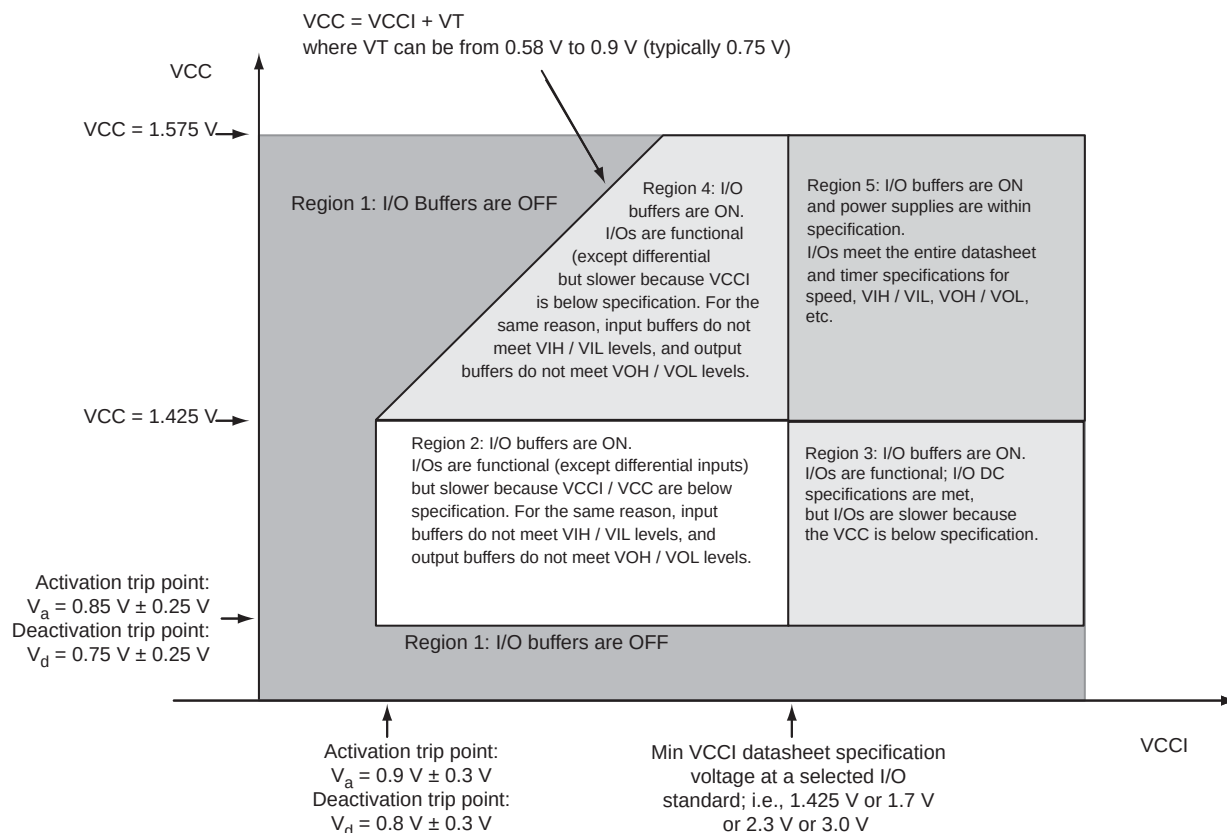

**Figure 2-1 • I/O State as a Function of VCCI and VCC Voltage Levels**
Sophisticated power-up management circuitry is designed into every ProASIC®3 device. These circuits ensure easy transition from the powered-off state to the powered-up state of the device. The many different supplies can power up in any sequence with minimized current spikes or surges. In addition, the I/O will be in a known state through the power-up sequence. The basic principle is shown in Figure 2-1 on page 2-4.
1. VCC and VCCI are above the minimum specified trip points (Figure 2-1 on page 2-4).
Microsemi recommends using monotonic power supplies or voltage regulators to ensure proper power-up behavior. Power ramp-up should be monotonic at least until VCC and VCCPLLX exceed brownout activation levels. The VCC activation level is specified as 1.1 V worst-case (see Figure 2-1 on page 2-4 for more details).